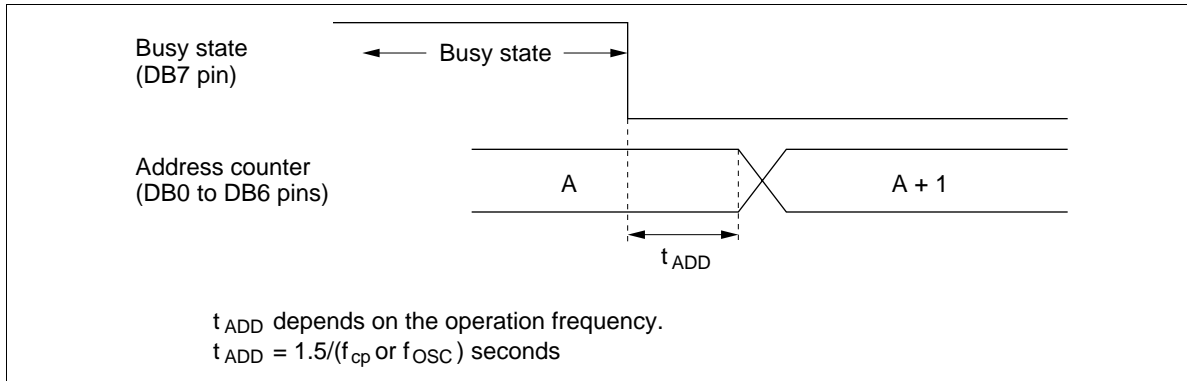

Figure 17 Address Counter Update
- * After execution of the CGRAM/DDRAM data write or read instruction, the RAM address counter is incremented or decremented by 1. The RAM address counter is updated after the busy flag turns off. In Figure 17, t_{ADD} is the time elapsed after the busy flag turns off until the address counter is updated.